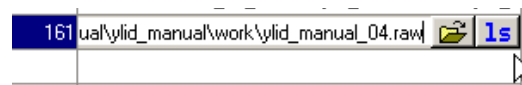

Figure 7.16 - Using the runs list ls tool
6. Examine the output. Double-click on any of the output entries for one additional tool—the ls button at the far right of the top. This will open the SAINT listing file for that integration run (see Figure 7.16).